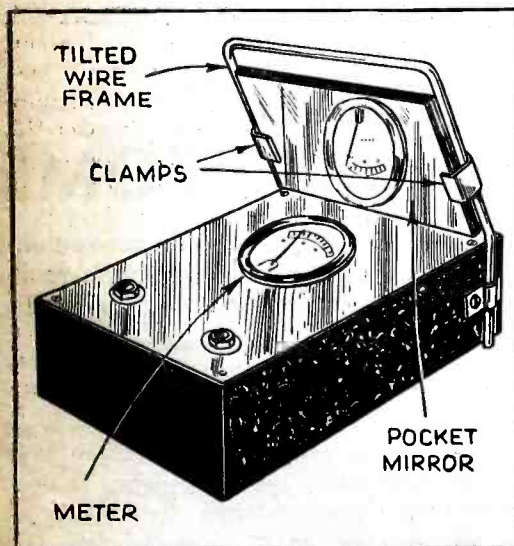

Fig. 2. A mirror fastened above a meter removes the need for tilting; more accurate readings result.
**M**IRROR "TILTS" METER WITHOUT INTRODUCING ERROR. In many meters, the counterweight on the needle is not sufficiently well balanced to afford as accurate a reading when a meter designed for horizontal use is tilted for easier reading. This may be avoided by fastening a small mirror, such as women carry in their handbags, over the instrument. It may be propped up temporarily, affixed to the cover of the meter case, or slipped into clips bent from stiff copper or steel wire, as Fig. 2 shows. Of course the reading will be reversed, but, with a little practice, one can read much more accurately this way than by tilting the meter.